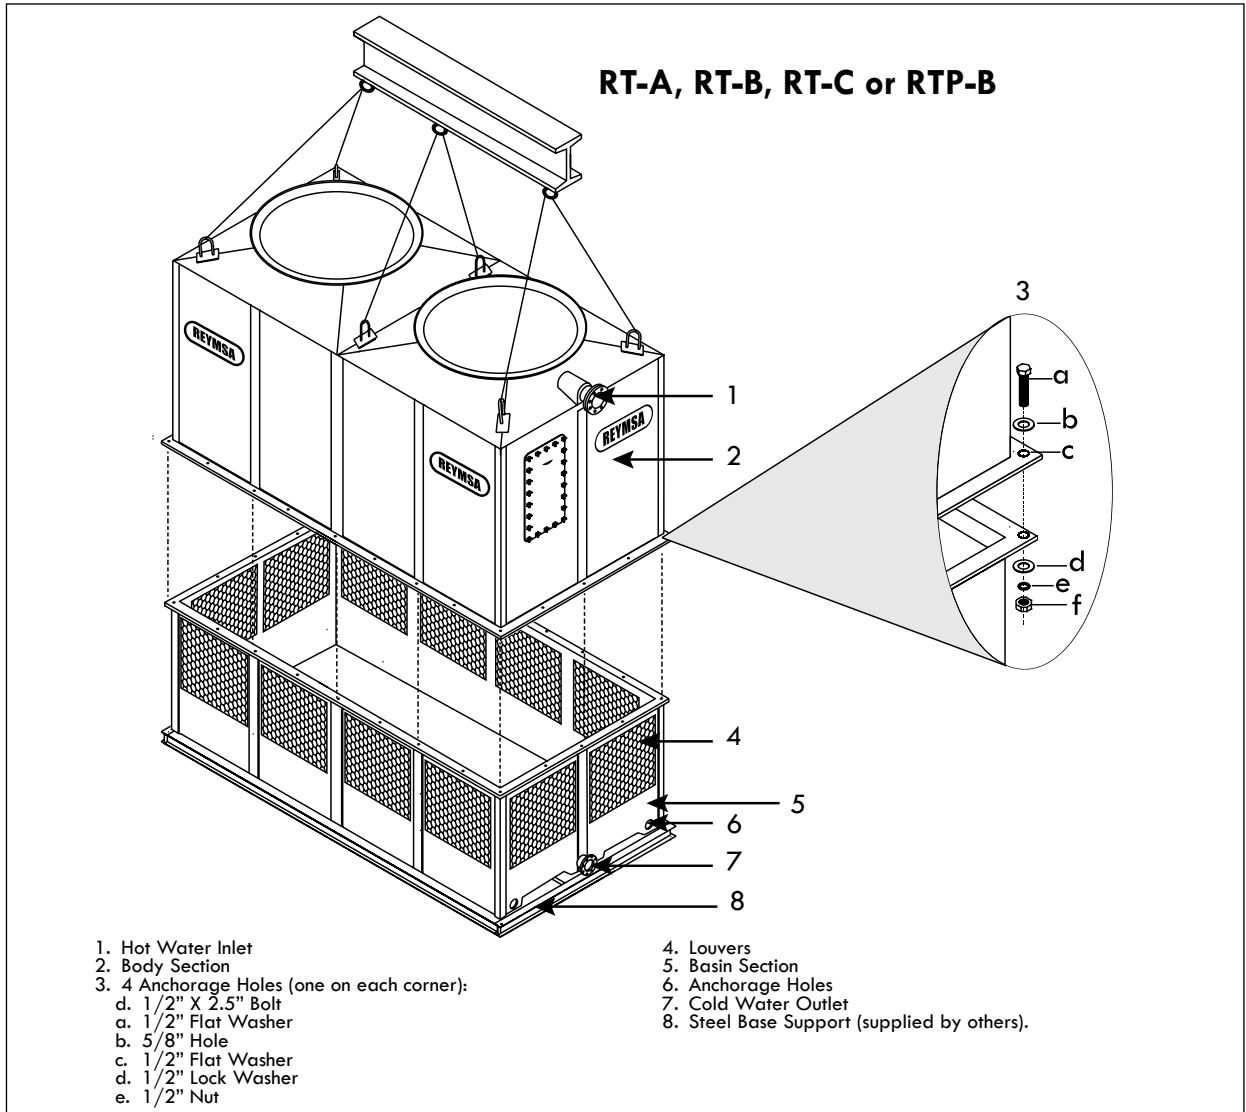

Figure A-17: Body and basin sections installation for a Two Fan Tower (RT-A, RT-B, RT-C, RTP-B)
- L. Assemble the body section (Upper Body section for RT-D or RTP-D) with the basin section (Lower Body section for RT-D or RTP-D). The body section comes assembled with u-bolts for lifting; then using a crane assemble both parts, use a drift pin to align bolt holes as the sections are being set (See figure A-17 and A-20). Make sure that the hot water inlet, and the cold water outlet are on the same side of the Tower when assembled.